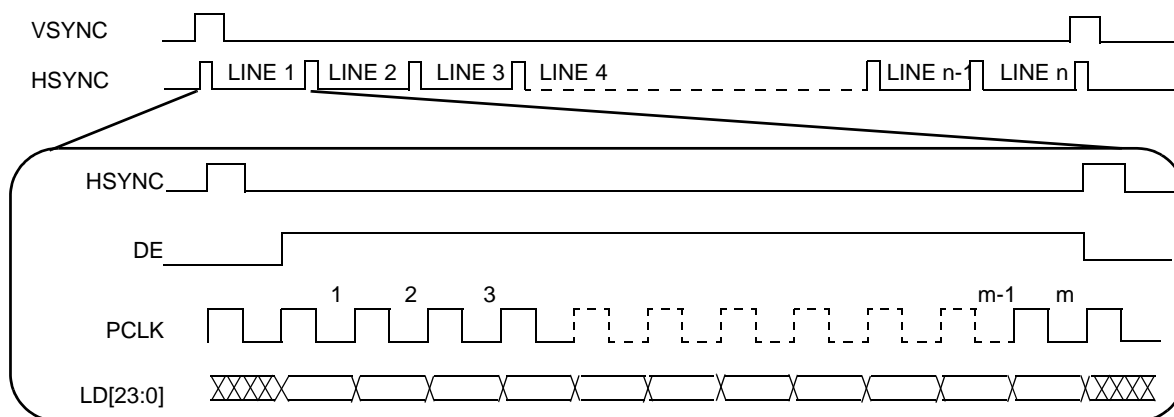

Figure 22. TFT LCD interface timing overview¹
Figure 22 depicts the LCD interface timing for a generic active matrix color TFT panel. In this figure signals are shown with positive polarity. The sequence of events for active matrix interface timing is:
1. In Figure 22, the “LD[23:0]” signal is “line data,” an aggregation of the DCU’s RGB signals—R[0:7], G[0:7] and B[0:7].